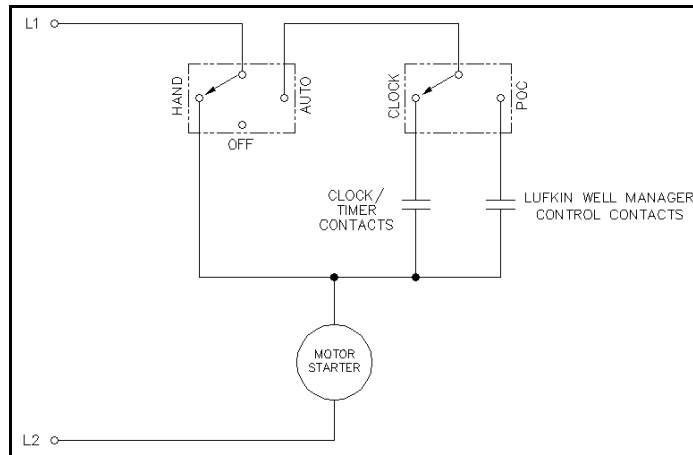

Figure 7-6. Control Circuit Wiring with Clock/POC Switch
- Allow the Lufkin Well Manager RPC to manage the well by selecting **Auto** then **POC**. Figure 7-6 is for this type of motor control approach.